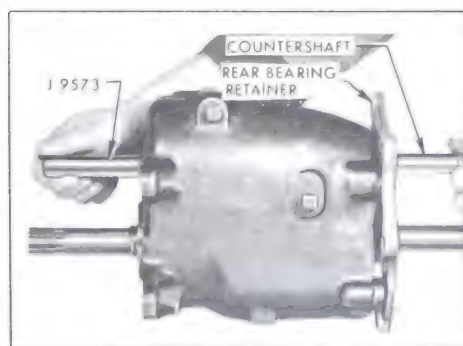

Figure 4-106—Removing J-9573
36. Slide countershaft through countergear, forcing Tool J-9573 out opening at front of case. See Figure 4-106.